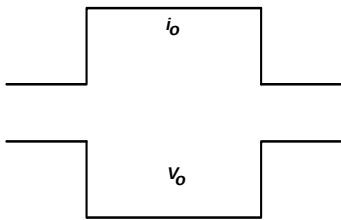
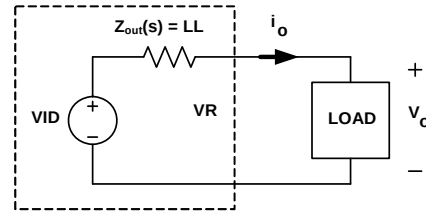

FIGURE 19. DESIRED LOAD TRANSIENT RESPONSE WAVEFORMS
FIGURE 25. VOLTAGE REGULATOR EQUIVALENT CIRCUIT
With proper compensator design, Figure 19 shows the expected load transient response waveforms. When the load current i_o has a square change, the output voltage V_o also has a square response.
Figure 19 shows the desired load transient response waveforms while Figure 25 shows the equivalent circuit of a voltage regulator (VR) with the droop function. A VR is equivalent to a voltage source (V_{ID}) and output impedance $Z_{\text{out}}(s)$. If $Z_{\text{out}}(s)$ is equal to the load line slope LL , i.e. constant output impedance, in the entire frequency range, V_o will have square response when I_o has a square change.